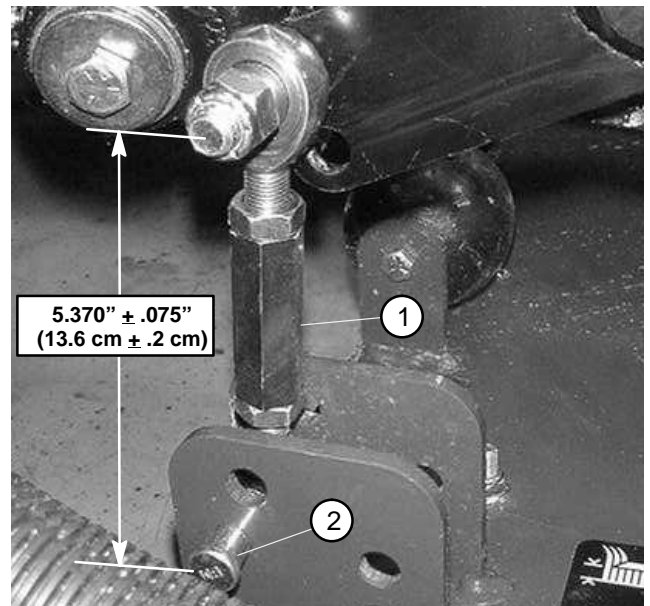

Figure 8
2. Remove hair pin and clevis pin that connects damper link to cutting deck (Fig. 8).
12. If rod ends (31) were removed from damper (30), apply thread locking compound to damper shaft threads before installing rod ends. Secure damper to bellcrank and rear arm with cap screws and lock nuts. Torque fasteners from 22 to 27 ft-lb (30 to 37 N-m).
13. If damper link was disassembled, adjust the length of the link to $5.370'' \pm .075''$ (13.6 cm \pm .2 cm) (Fig. 8).
14. If damper springs (37) were removed, tighten lock nuts so that bushings (36) are free to rotate.
3. Connect damper link to cutting deck with clevis pin and hair pin (Fig. 8).